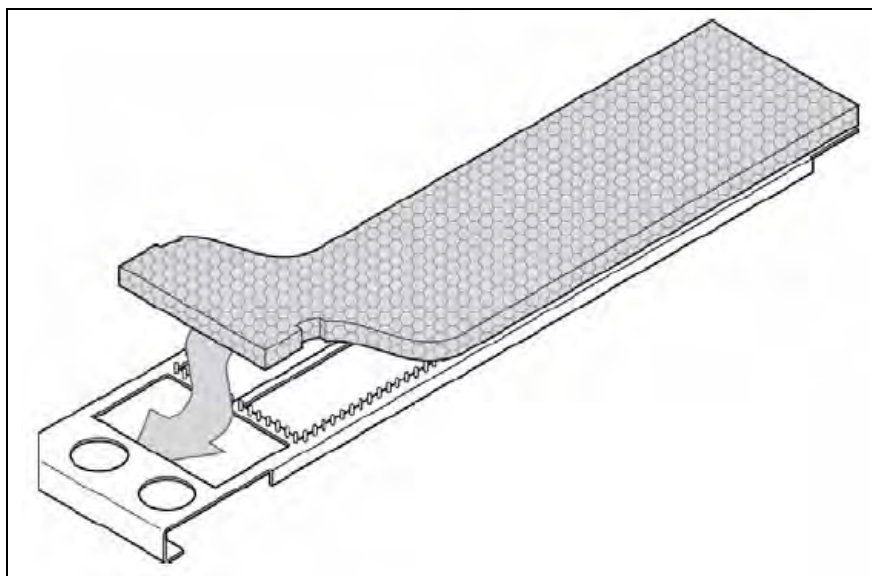

Figure C.13 - Bottom Air Filter Replacement
8. Pull the front end of the filter through the frame to the bottom of the frame as shown in **Figure C.13**.